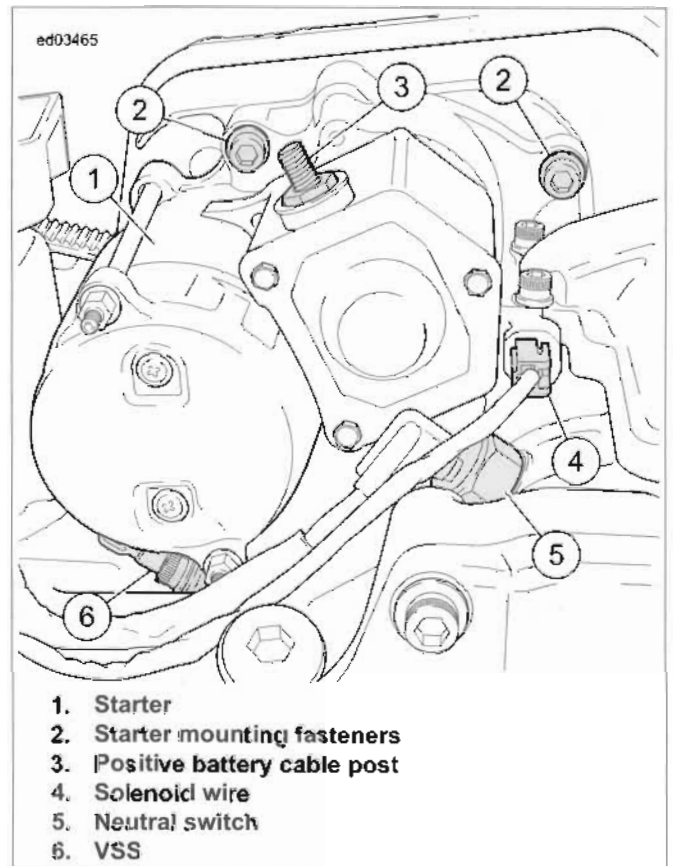

Figure 7-30. Starter Components
2. See Figure 7-30. Apply LOCTITE 243 MEDIUM STRENGTH THREADLOCKER AND SEALANT (blue) to threads of both starter mounting fasteners (2). Install and tighten to 25-27 ft-lbs (33.9-36.6 Nm).
3. Attach solenoid wire (4).